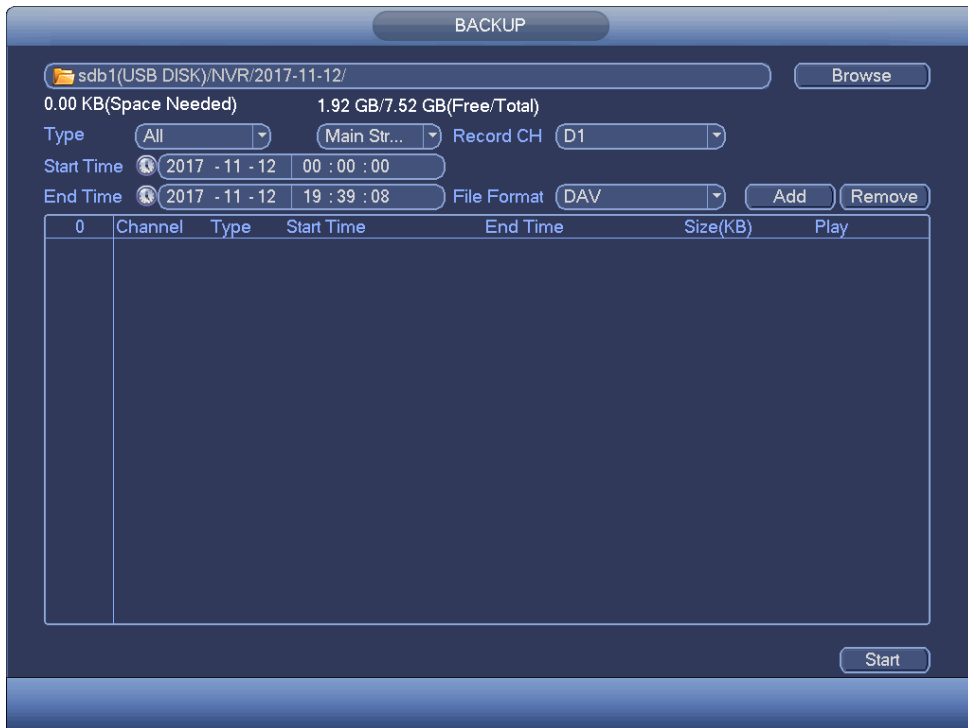

Figure 4-127
- b) From Main menu->Backup, you can go to the Backup interface. See Figure 4-127